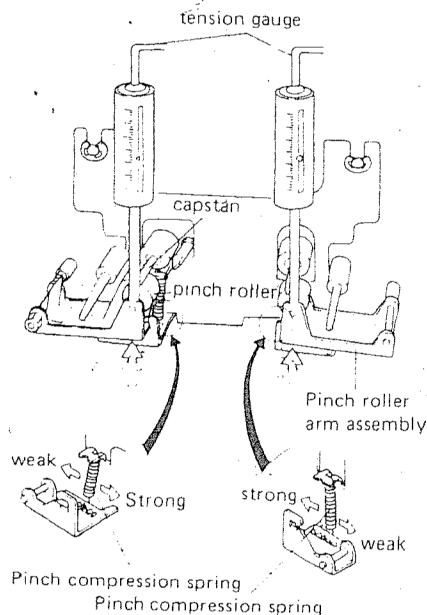

Fig. 21
1. After setting to the play mode, insert 2 tension gauges (spring balances with 500g scales) as shown in Fig. 21, and pull the pinch rollers away slightly (about 0.5mm) from the capstans.